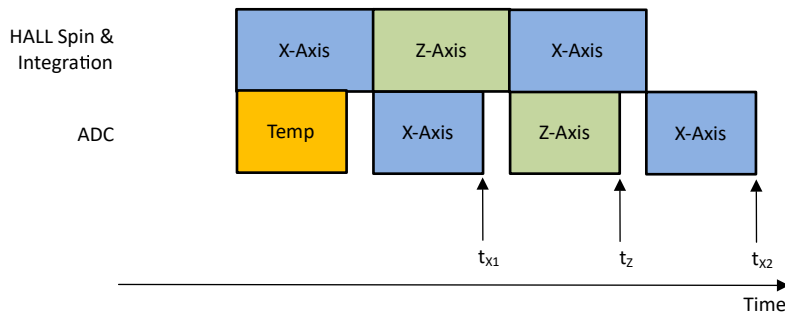

Figure 7-3. XZX Magnetic Field Conversion
In absolute angle measurement, application sensor data from multiple axes are required to calculate an accurate angle. The magnetic field data collected at different times through the same signal chain introduces error in angle calculation. The TMAG3001 offers pseudo-simultaneous sampling data collection modes to eliminate this error. Figure 7-3 shows an example where `MAG_CH_EN` is set at Bh to collect XZX data. Equation 12 shows that the time stamps for the X and Z sensor data are the same.
- t_{x1} , t_z , t_{x2} are time stamps for X, Z, X sensor data completion as defined in Figure 7-3.